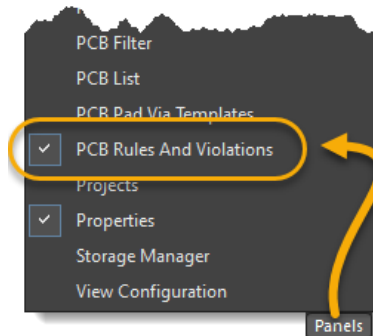

Figure 6. Opening the *PCB Rules and Violations* panel
19. Instead of using the report to navigate through the violations, we will use the *PCB Rules and Violations* panel while in the PCB. While in the Module 25 PCB Design Rule Checks (DRCs) .PcbDoc, click the **Panels** button  and select the *PCB Rules and Violations* panel as shown in Figure 6.